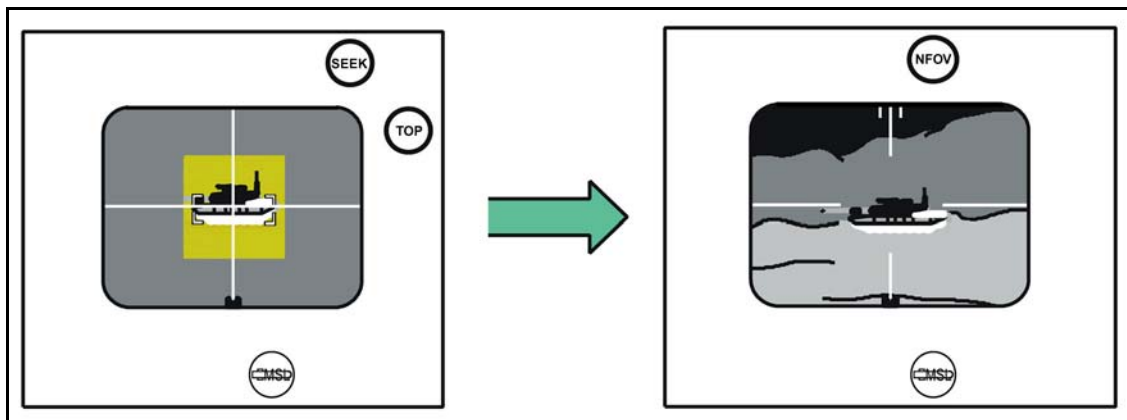

Figure D-8. MISSILE BIT FAILURE indicator—solid ON.
- b. **Possible Reasons.** The missile BIT software has detected a failure in the missile (Figure D-8). When the missile fails BIT, the **MISSILE BIT FAILURE** indicator lights up, the missile powers down, and the CLU display reverts to the previous FOV. The missile must be replaced.